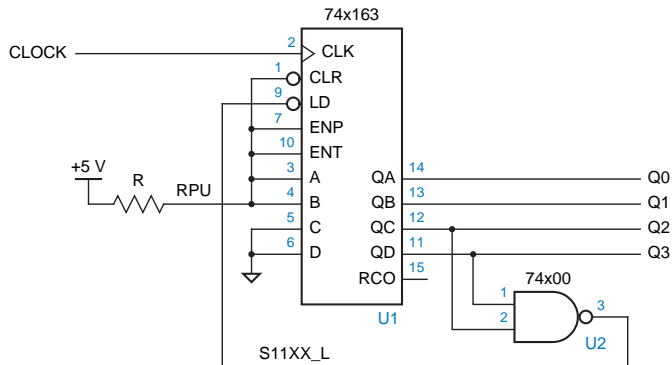

Figure 30: A 74x163 used as an excess-3 decimal counter.
- In Fig. 30, a NAND gate detects state 1100 and forces 0011 to be loaded as next state